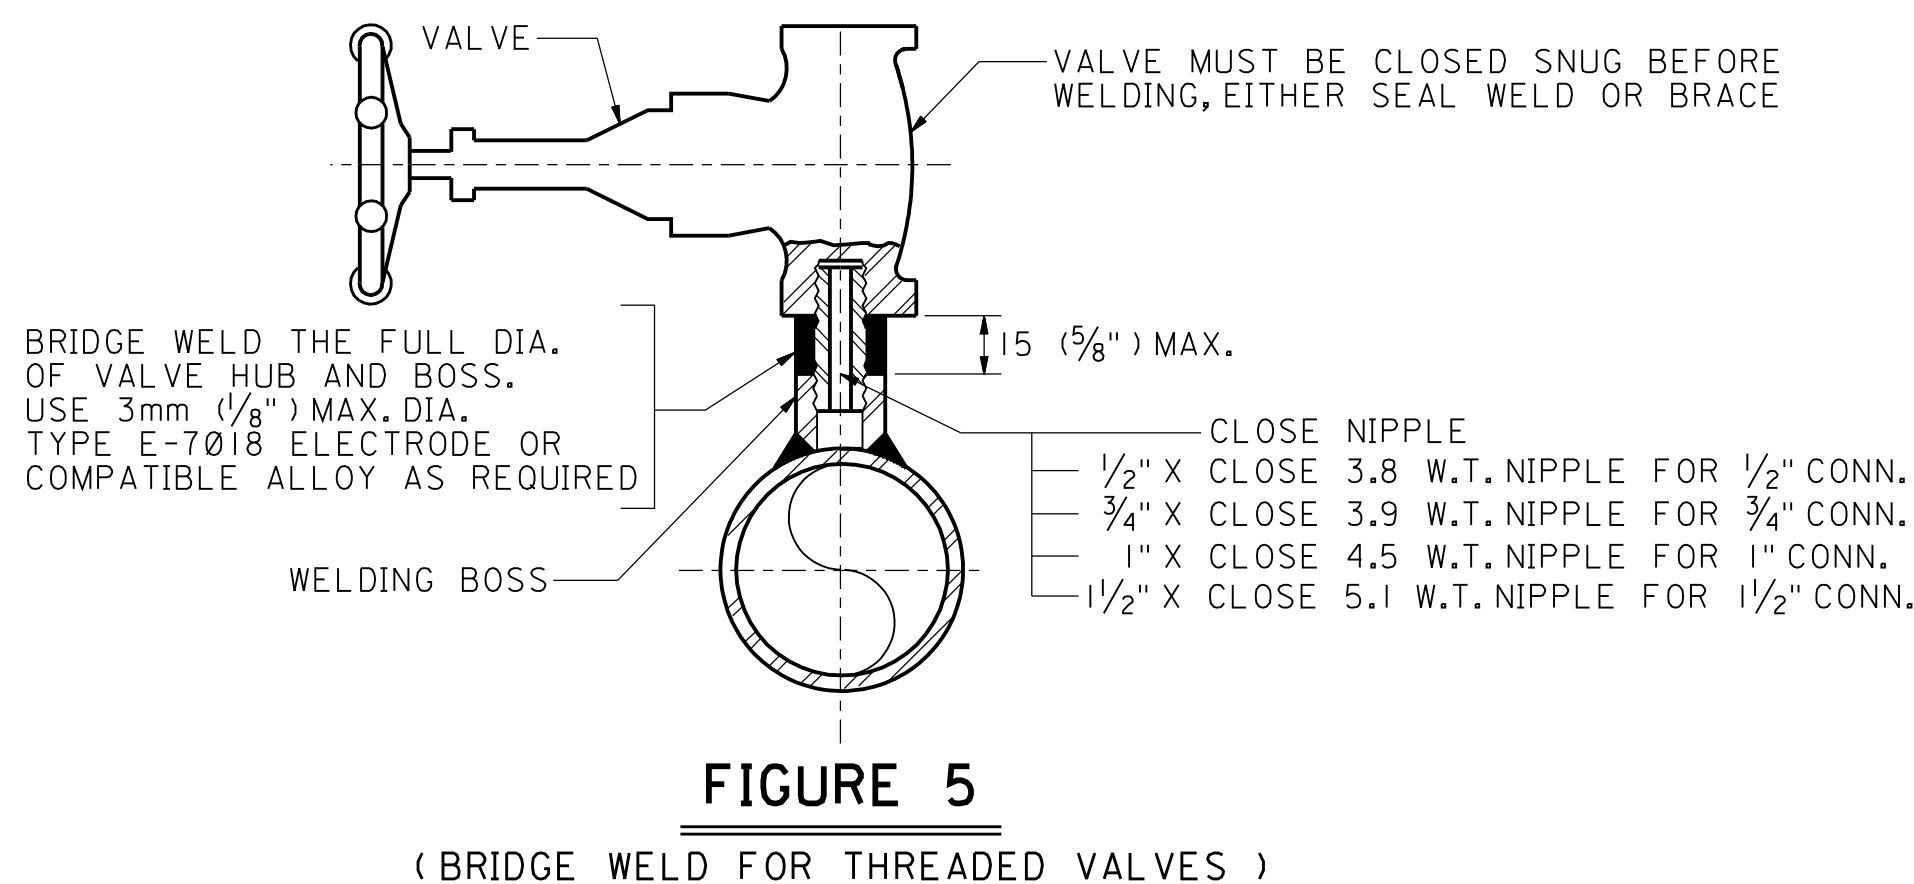

FIGURE 5
4. BRIDGE WELD AS SHOWN IN FIG.5 IS REQUIRED IF THE VALVE CAN BE USED AS A STEP EVEN THOUGH VIBRATION IS NOT EXPECTED.